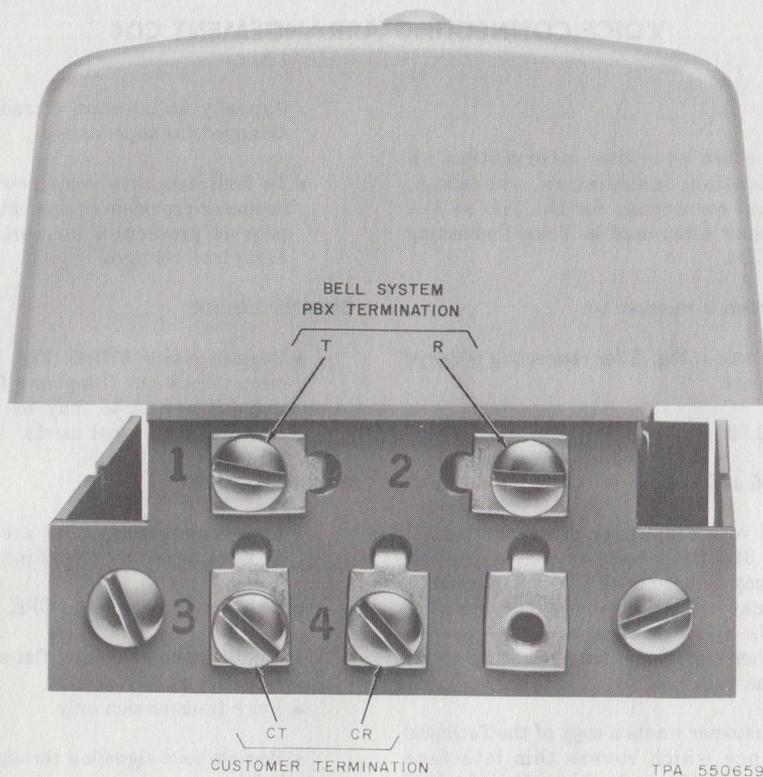

Fig. 1—31B (or 31A [MD]) Voice Coupler
- Coupler, Voice, 31B-49 (Fig. 1, one for each circuit between Telephone Company PBX and CPE) (31A-49 may be substituted if tone signaling is not used.)